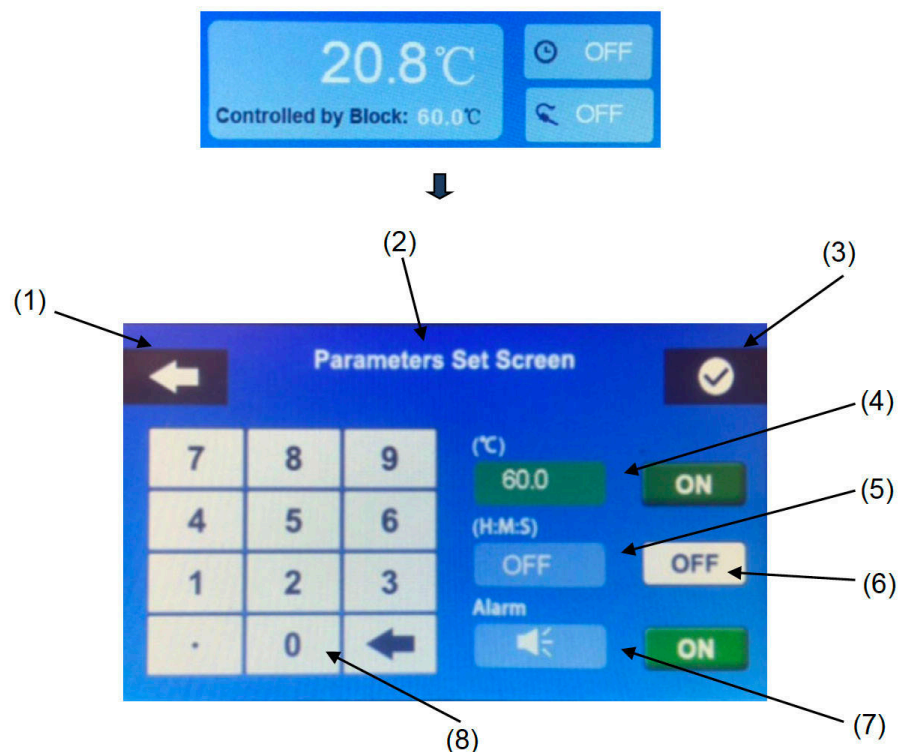

FIGURE 5
4.4 Parameter Set Screen (Figure 5)